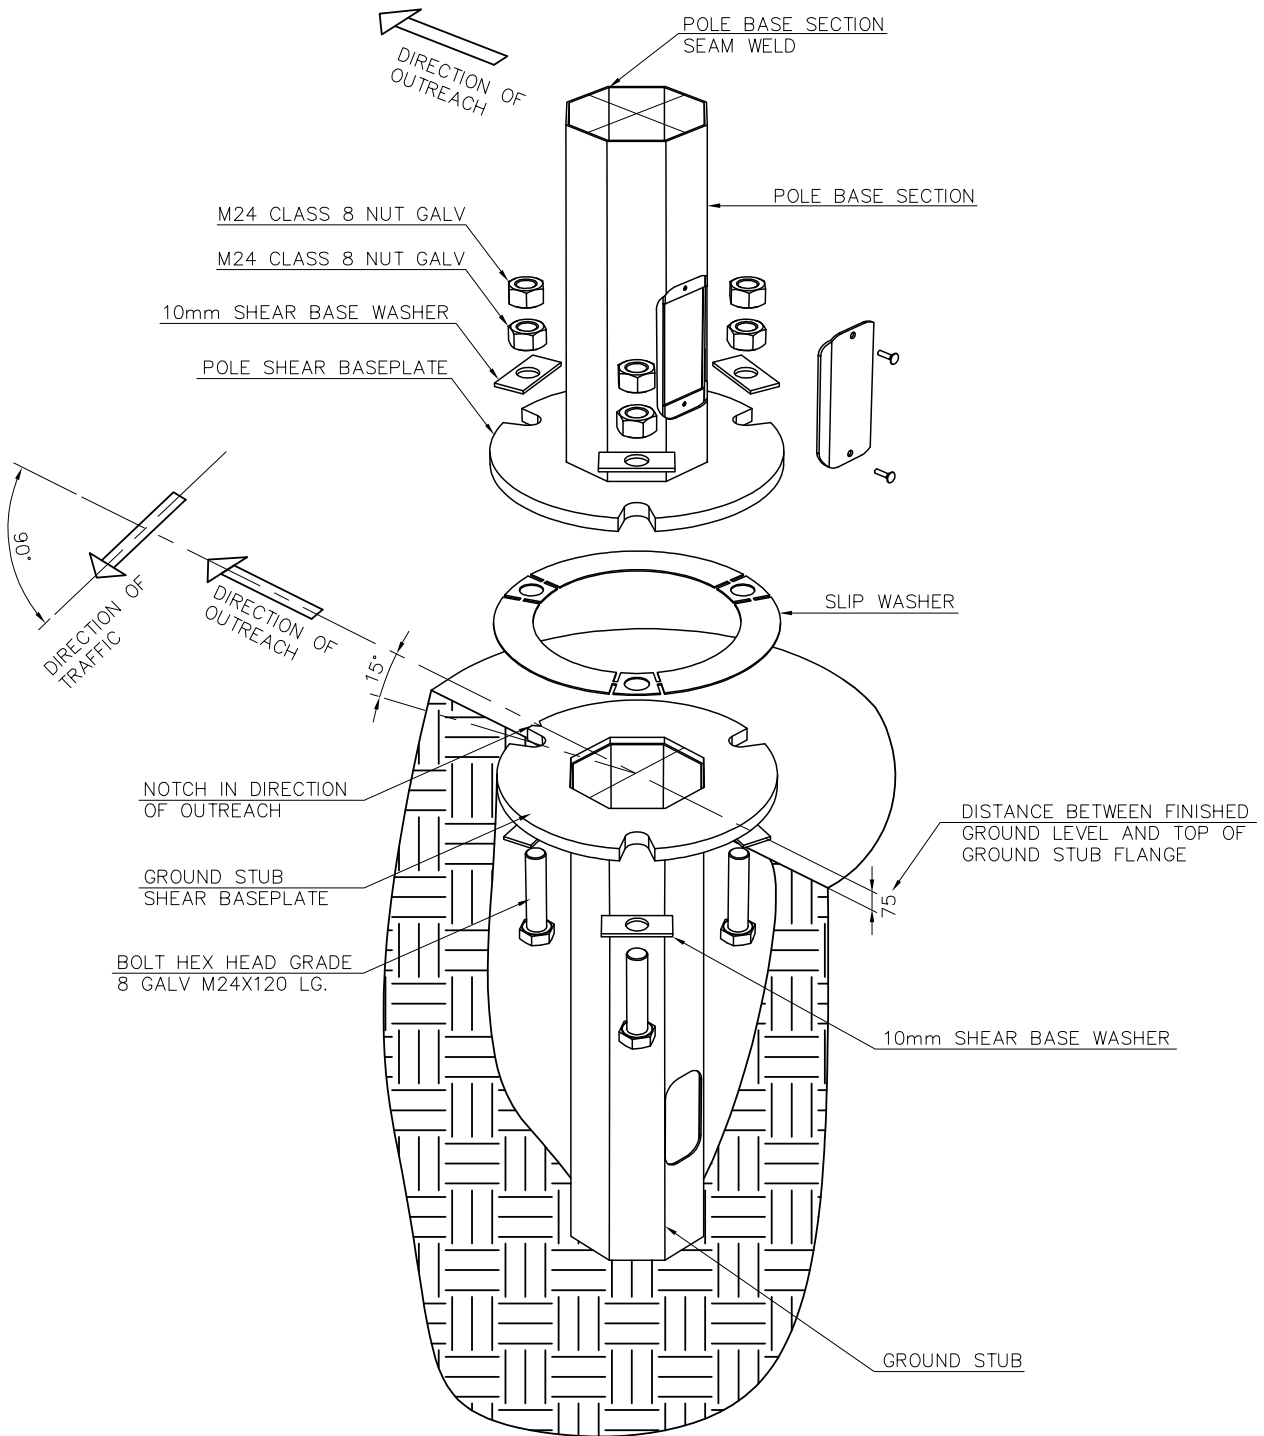

Figure 12: Exploded view of typical slip base pole components
9. The M24 x 110mm bolts must be greased with a suitable lubricant before torquing. Acceptable lubricants include Loctite Heavy Duty Anti-seize, Loctite Silver Grade Anti-seize, and Holts Lube. All parts of the thread must be coated with lubricant (For easy installation insert the bolts so that the nuts are facing upwards, refer Figure 12).